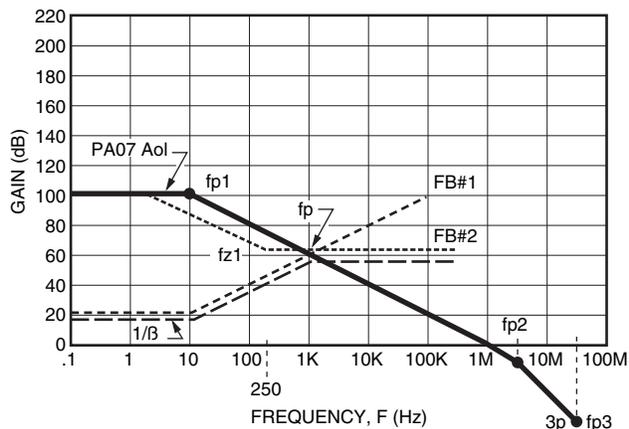

FIGURE 19. FIRST GUESS MAGNITUDE PLOT FOR STABILITY
STEP 3: Refer to Figure 19 which repeats PA07 Aol and FB#1. We will add FB #2 to force the high frequency part of the 1/β curve to flatten out and intersect the PA07 Aol curve at 20 dB per decade. FB #2 will dominate at frequencies above 1 KHz. Although our V-I circuit has two feedback paths, the op amp will follow whichever feedback path is dominant. This means the larger β is, the more voltage is fed back from the output to the -input as negative feedback (Remember  $\beta = V_{fb}/V_{OUT}$ ). With a larger β, 1/β will
**STEP 4:** In Figure 19 the long-dashed line represents the 1/B feedback path that the PA07 operates in for small signal AC. According to our first order check for stability we see a 20 dB per decade rate of closure indicating a stable design. But let’s do our complete stability check by using the 1/B curve and PA07 Aol curve to plot the open loop phase plot. Remember the following rules when plotting open loop phase plots for stability checks.
Figure 20 is the resultant open loop phase plot using the information from Figure 19. After plotting individual open loop poles and zeroes, and drawing the appropriate slopes, we graphically add the slopes to yield a resultant open loop phase as shown in Figure 20. Notice fp3 in Figure 20 is a triple pole. It is easier to plot this as shown in Figure 20 as three poles “on top” of each other. This